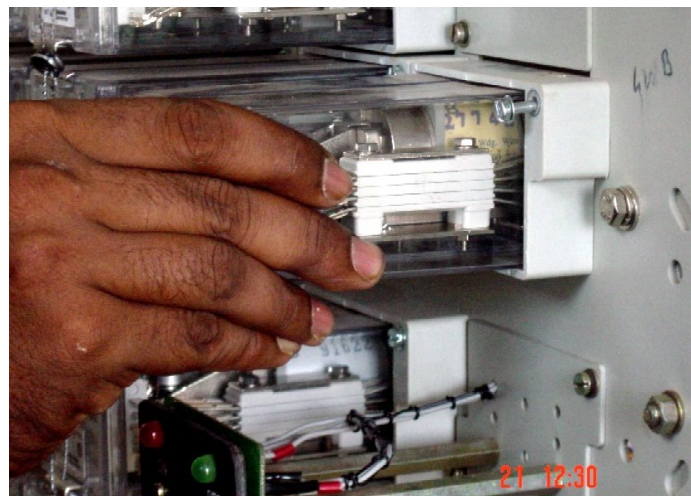

Fig. 4
- Fig.3 gives the suggested mounting arrangement. With use of screw S1 & S2 (ref. Fig.2), plug-in-base is first fixed on to the Base plate. The plug-in-relay is then plugged into the relay plug-in-base (Ref. Fig.4), after the relay is completely plugged in the screws S3 & S4(ref. Fig.2) are tightened on the Base plate.